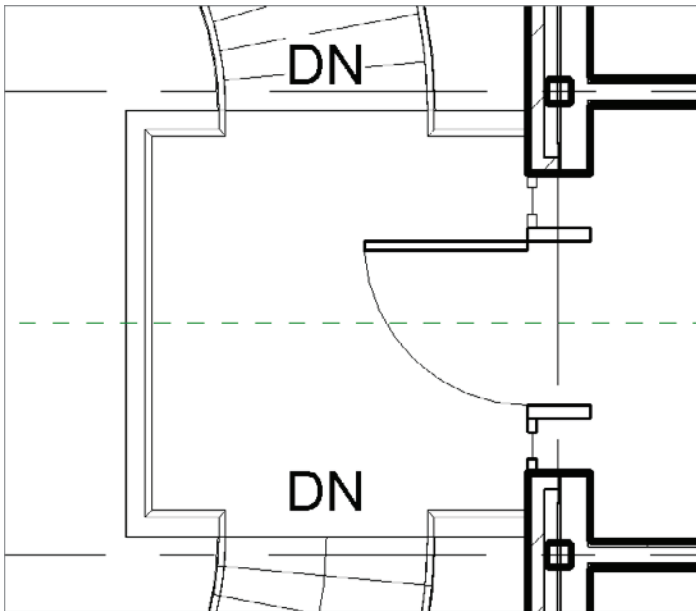

FIGURE 10.54 The railing at the front of the landing
11. You may have to flip the railing by selecting it and then clicking the Flip arrow. Your railing should look like Figure 10.54.